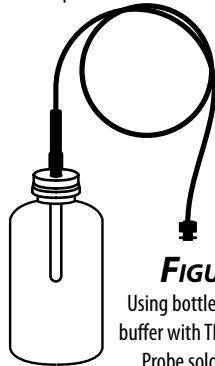

FIGURE 1
3. Insert the probe (TEMP-UL-S, TEMP-L-S, TEMP-H-S) through the hole in the rubber grommet cap and into the bottle until it reaches the probe's black heatshrink tubing. Only the stainless steel portion of the probe should be inside the bottle. (Figure 1.)